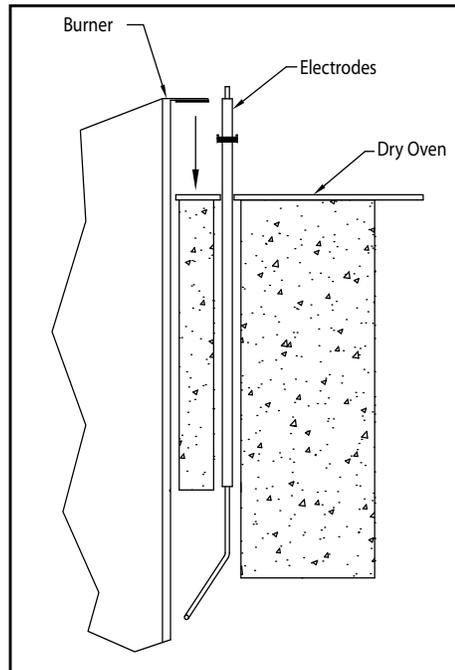
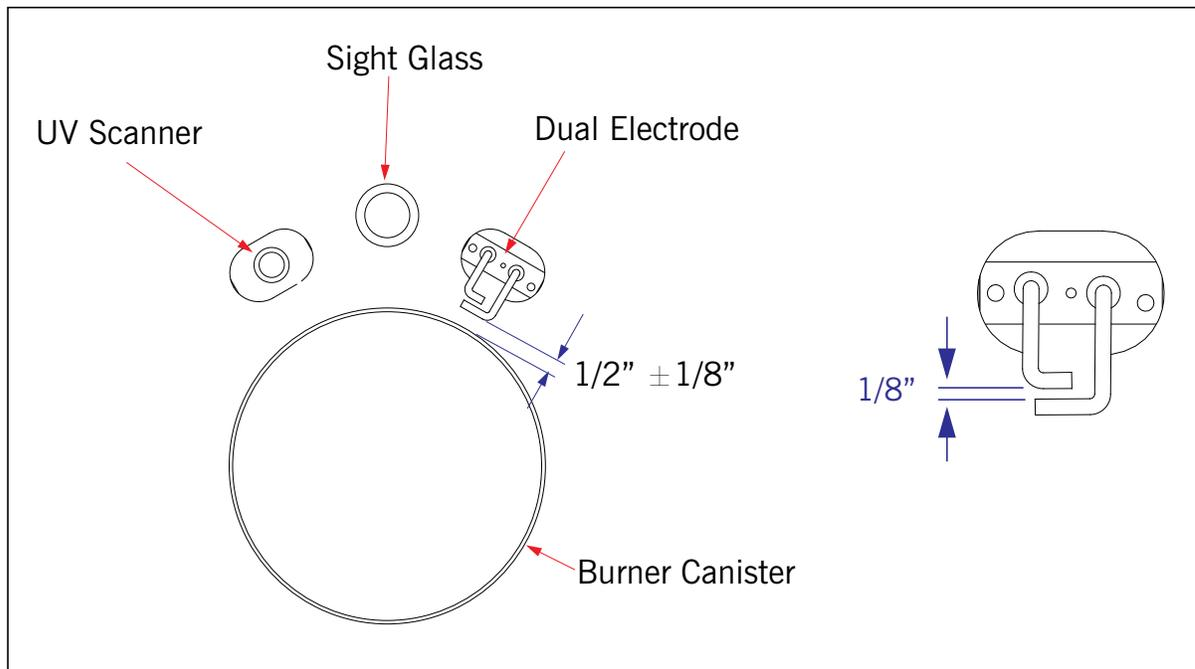

Figure 5-8 Ignition Electrodes
Figure 5-9
- A. Check ignition electrodes for deposits and proper gap. Clean or replace as required. Refer to Fig. 5-8 and Fig. 5-9
The ignition electrode should be checked on an annual basis or as needed if ignition problems are encountered. Replacement should be accomplished as shown in **Figure 5-8** with the electrode turned toward the burner mantle/canister after it is inserted into the burner head.
In order to verify spacing of electrode, center the burner cylinder within the dry oven. Then attach electrode to the dry oven with the screws provided. Using the slots in the electrode, adjust the spacing to the dimensions shown in **Figure 5-9**. Tighten electrode screws.